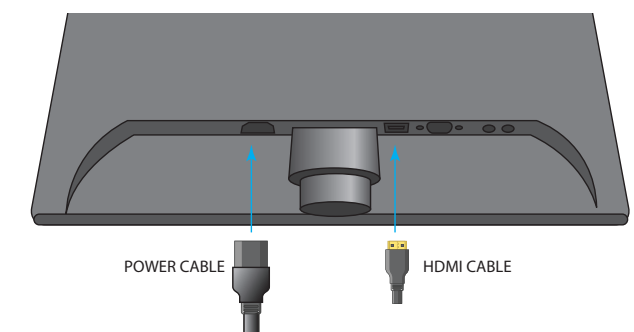

Fig. 1.8
- 9 Connect the power cable and the HDMI cable to the monitor (see Fig. 1.8). Connect the other end of the power cable to an electrical outlet.